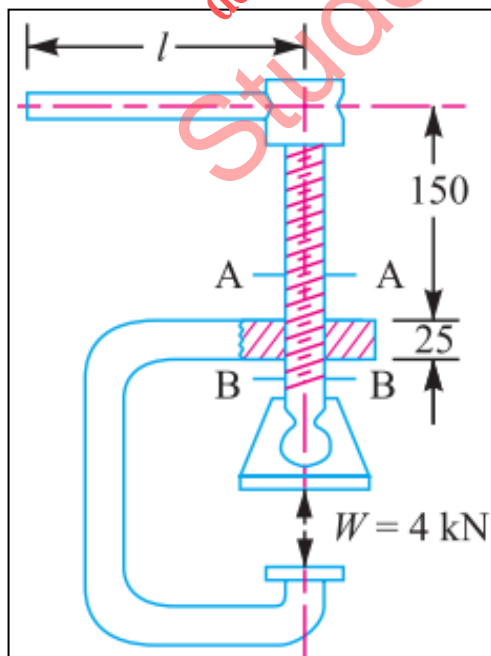

Fig. 2 (Que. 4 (a))
- Q.4** (a) A C-clamp, as shown in Fig 2, has trapezoidal threads of 12 mm outside diameter and 2 mm pitch. The coefficient of friction for screw threads is 0.12 and for the collar is 0.25. The mean radius of the collar is 6 mm. If the force exerted by the operator at the end of the handle is 80 N, find: 1. The length of handle; 2. The maximum shear stress in the body of the screw and where does this exist; and 3. The bearing pressure on the threads. **08**